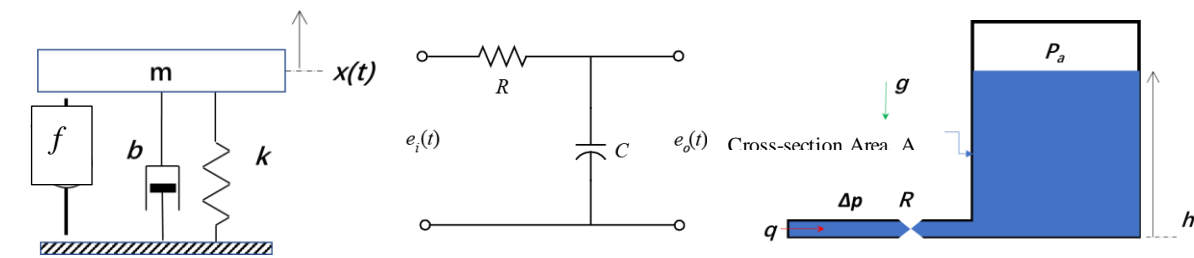

Figure 2: System dynamics that can be represented with first order ode: (a) Mass-Spring Damper System (b) RC circuit, (c) Water tank
a. Express the dynamics of the system of Figure 2(a) in the form of Equation 1 given  $m=2$ ,  $b=0.7$ ,  $k=1$  and  $f=0.5$  with zero-initial conditions.
c. Show that for the systems in Figure 2 b and c can be expressed as follows.